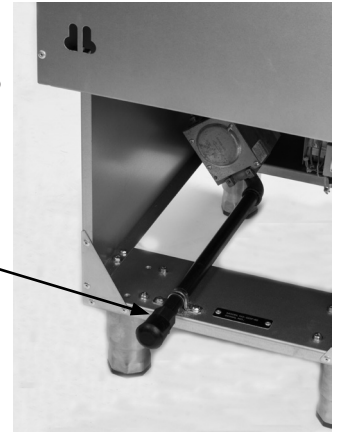

Figure 9-1
3. Connect the gas supply directly to the 3/4" male NPT line located near the lower right rear corner of the fryer. See Figure 9-1.